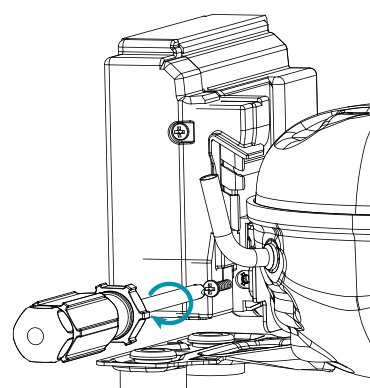

Figure 3-34: Step 6 - Screw the inverter
- The screws shown in Figure 3-34 are for reference only to indicate the fastening positions. Secure the inverter using a screw or washer with a minimum diameter of 10 mm. Tighten to a torque of 0.8 – 1.2 Nm.